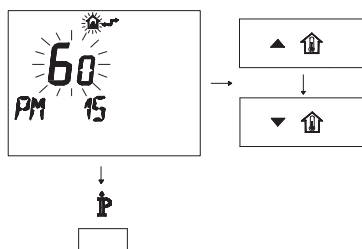

Figure 5.27
- Modify the programmed SET by pushing   or   until a **setting of 60** is displayed and wait for the programmed number to flash (Figure 5.27).